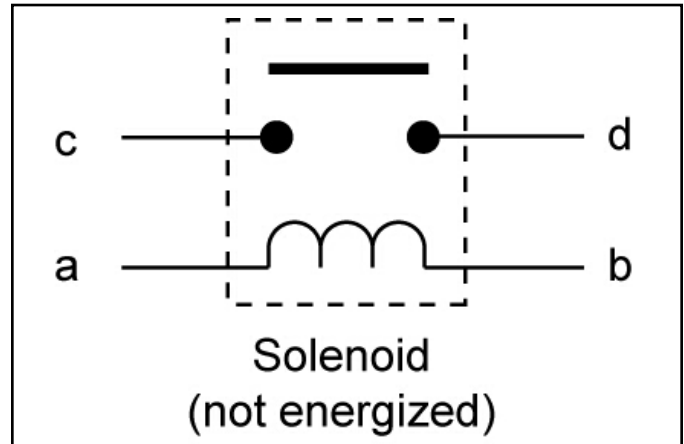

Fig. 150
3. Apply +12 VDC to terminal "a" and ground terminal "b". Terminals "c" and "d" should now be closed (continuity) (Fig. 150).